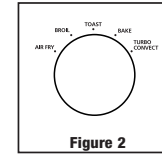

Figure 2
4. **Function Selector Knob** – Select cooking function by turning knob to desired setting. (See Figure 2)